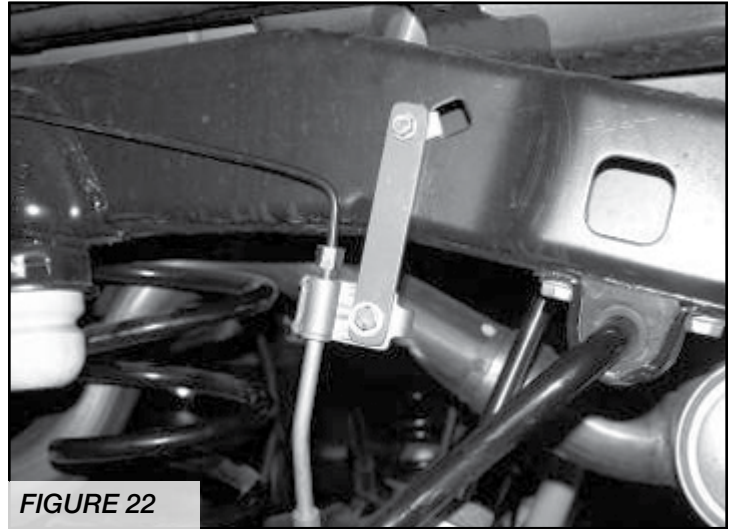

FIGURE 22
26. Locate FT50295 Rear Brake Line Drop Bracket, supplied 1/4" hardware, and factory rear brake line hardware. Attach the drop bracket to the factory mount with the factory hardware. Attach the factory brake line bracket to the new drop bracket with the 1/4" hardware. Torque to 10 ft-lbs. SEE FIGURE 22